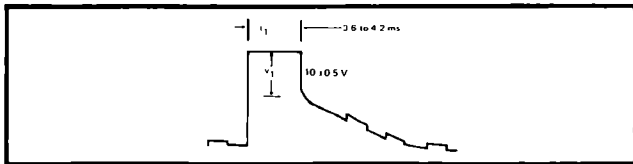

Figure 4-10. RING COUNTER SIGNAL - TP3 - CORRECT WAVEFORM.
4-56. The signal at TP3 (Figures 4-10 and 4-11) is convenient for evaluation of the ring counter. The signals at the collectors of Q20 through Q24 are identical, but are displaced in time.
- In the waveform shown in Figure 4-10, t_1 should be 3.8 to 4.2 milliseconds. If t_1 is not correct, check clock signal duration. It should be 4 ± 0.2 milliseconds duration.